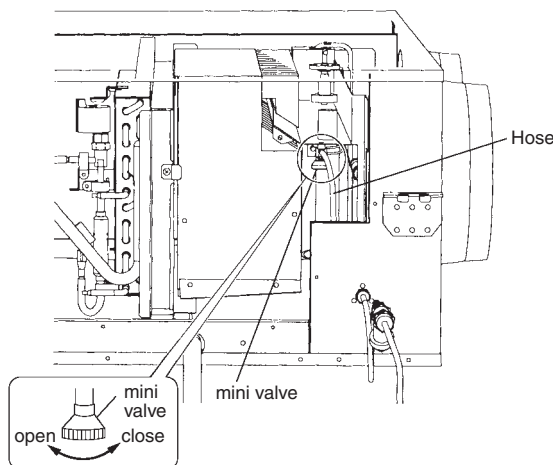

Fig. 3
2. Please loosen a mini valve and drain the water which has accumulated. (Fig.3)